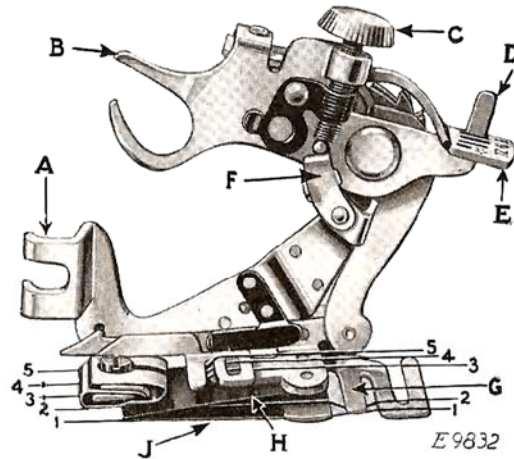
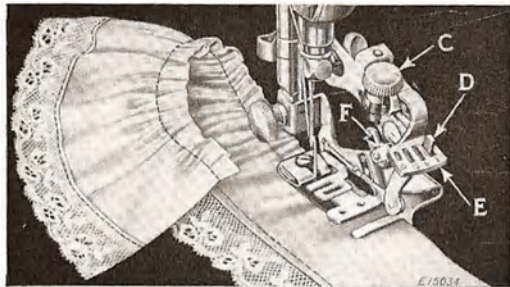
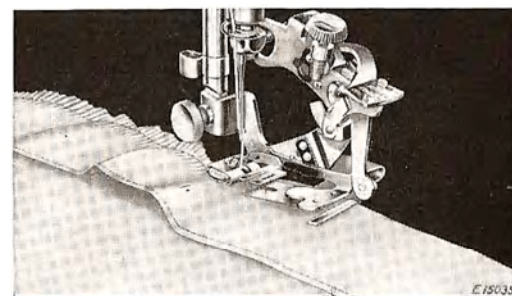

FIG. 122. THE RUFFLER AND ITS PARTS
FIG. 124. MAKING A PLAIN GATHER
FIG. 126. MAKING A RUFFLE AND SEWING IT TO THE GARMENT
It is necessary to become familiar with the Ruffler before it can be used successfully. Select the Ruffler from the set of attachments and compare it with Fig. 122. Note the names and uses of the principal parts, as follows:
NOTE: If the Rufflers with your machines are not exactly like Fig. 122 you will find the working parts quite similar. Any difference in the adjustments will be found explained in the instruction book.
Lines 1, 2, 3, 4 and 5 (Fig. 122) indicate where the material is to be placed for various operations, as follows:
The adjusting finger (F, Fig. 124) is not intended for gathering and should be moved toward the operator or away from the needle, as shown in Fig. 124.
Raise the adjusting lever (E, Fig. 124) and move it to the left so that the projection (D, Fig. 124) will enter the slot marked "1" in the adjusting lever (E) when the lever is released. The ruffling blade will then move forward and back once at every stitch. Insert the material to be ruffled between the two blue blades, following the line 2 in Fig. 122. Draw the material slightly back of the needle, lower the presser bar and commence to sew.
To make fine gathering, shorten the stroke of the ruffling blade by turning the adjusting screw (C, Fig. 124) upward, also shorten the stitch. To make full gathering, lengthen the stroke of the ruffling blade by turning the adjusting screw (C) downward; also lengthen the stitch. By varying these adjustments, many pleasing varieties of work can be accomplished.
Insert the material in the Ruffler between the two blue blades following line 2, Fig. 122. Pull the edge of the material to be gathered forward until it is slightly past the needle, lower the
presser bar and sew. See Fig. 124. The fullness of the ruffle is determined by the position of the adjusting screw. To **decrease** the fullness turn the screw **up**. To **increase** the fullness turn the screw **down**.
under the separator blade following line 1, Fig. 122. Proceed as for plain gathering, guiding the material lightly so that it will not feed away from the heading guide. See Fig. 126.
First insert the material for the ruffle in the Ruffler between the two blades and the garment under the separator blade, as directed for sewing the ruffle to the garment in one operation. Place the material for the facing in the Ruffler, following line 3, Fig. 122.